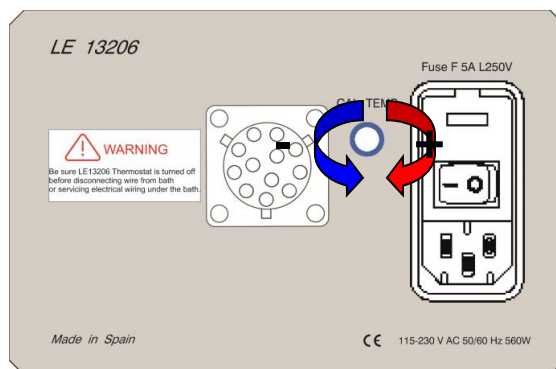

Figure 27. CAL TEMP potentiometer rotation directions.
- 5) When the temperature in the display of the LE13206 thermostat reaches 25°C, the HEAT LED will be turned off. Then, observe the precision thermometer and adjust the LE13206 thermostat with the CAL TEMP potentiometer in the hole of the rear panel using a small screwdriver. If you turn in the direction of the red arrow (see Figure 27) the temperature on the display increases, if you turn in the direction of the blue arrow (see Figure 27) the temperature on the display decreases. Adjust the potentiometer so that the temperature on the LE13206 display is the same as the temperature on your precision thermometer.